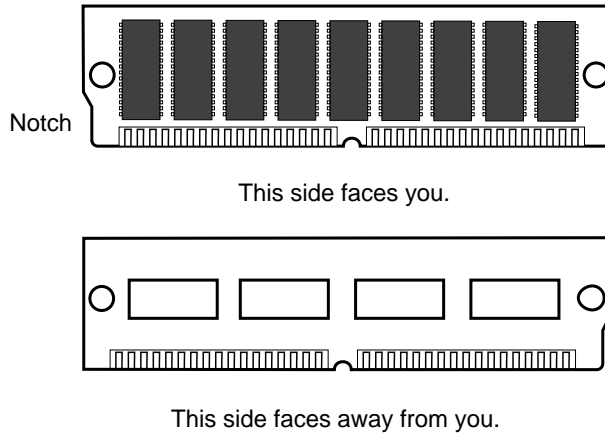

Figure 3-9 Orienting Yourself to the IRIS Indigo R4000 family SIMM
- Using both hands, grasp the top of the SIMM so the notch in the bottom corner of the SIMM is on your left, as shown in Figure 3-9.